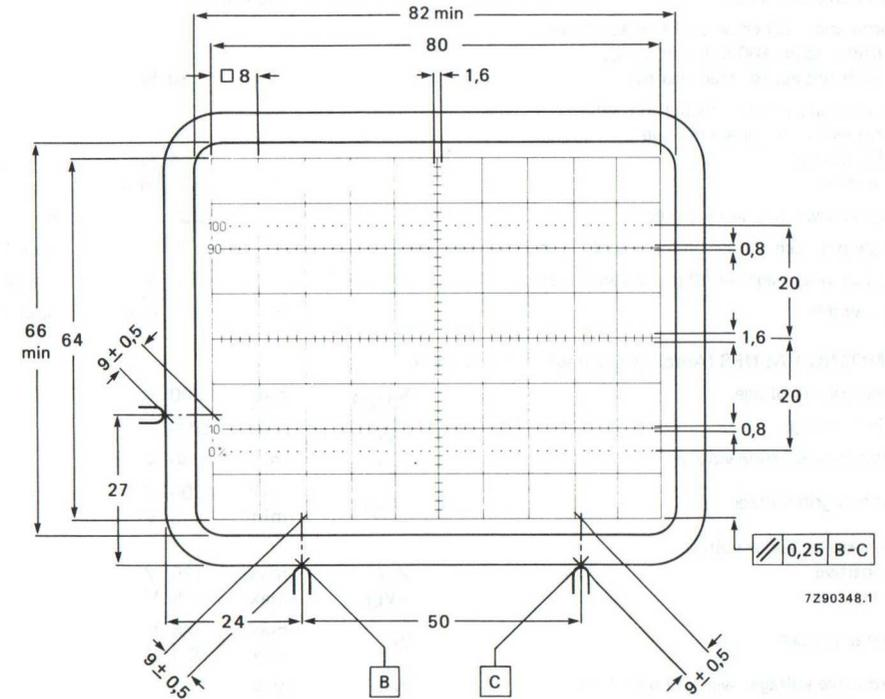

Fig. 4 Front view of tube with internal graticule, type 119.
Internal graticule	type 119; see Fig. 4
The tube can be mounted in any position. It must not be supported by the socket and not by the base region alone. The reference points on adjoining edges of the faceplate (see Fig. 4) enable the tube to be mounted accurately in the front panel, thus providing optimum alignment of the internal graticule.
- As the frit seal is visible through the faceplate, and not necessarily aligned with the internal graticule, application of an external passe-partout with open area of max. 82 mm x 66 mm is recommended. The internal graticule is aligned with the faceplate by using the faceplate reference points (see Fig. 4).
- (1) Dimensions of faceplate only. The complete assembly of faceplate and cone (frit seal included) will pass through an opening of 101 mm x 85 mm.
- (2) The coil is fixed to the envelope with resin and adhesive tape.
- (3) The length of the connecting leads of the rotation coil is min. 350 mm.
- (4) Reference points on faceplate for graticule alignment (see Fig. 4).
The internal graticule is aligned with the faceplate by using the faceplate reference points, see Fig. 4. See also note 1.